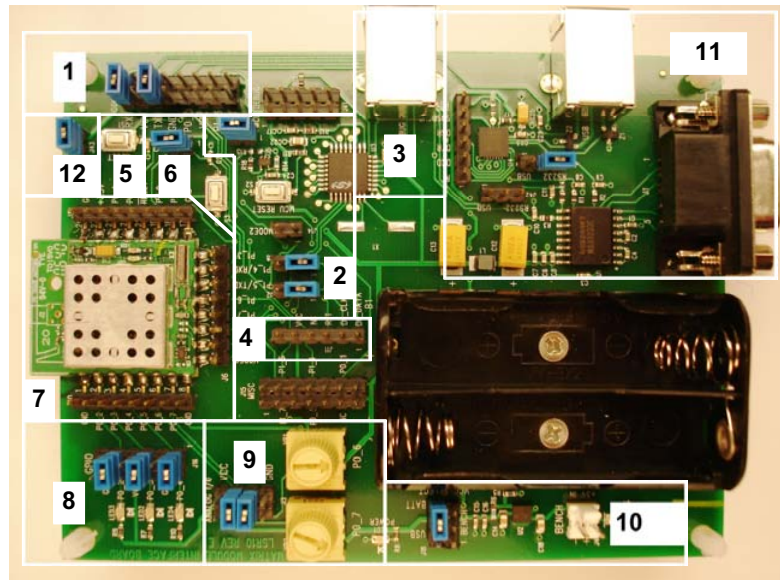

Figure 3 -1 Interface Module with Matrix Module Inserted in Socket
3.1 Interface Module Overview (See Figure 3 – 1 for Photo)